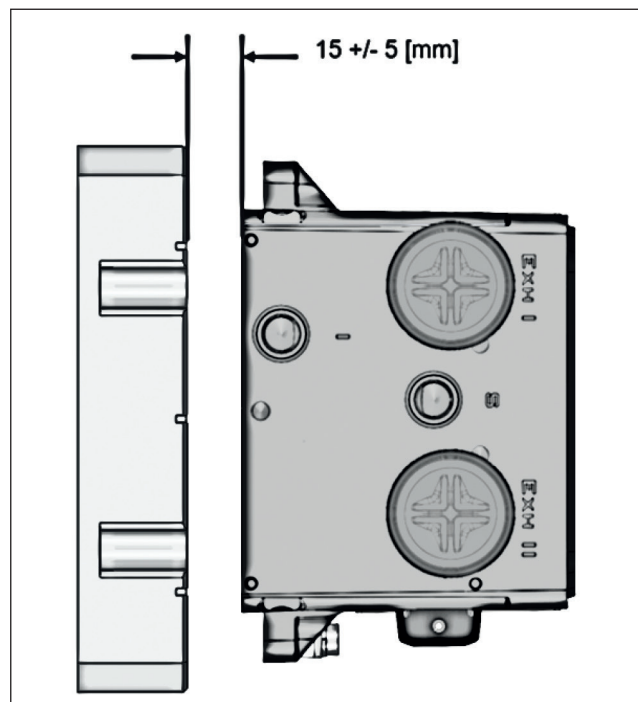

Fig. 28.
3. The distance between the magnet and the device bottom shall be 15 +/- 5 mm tolerance (10...20 mm). See fig 28.